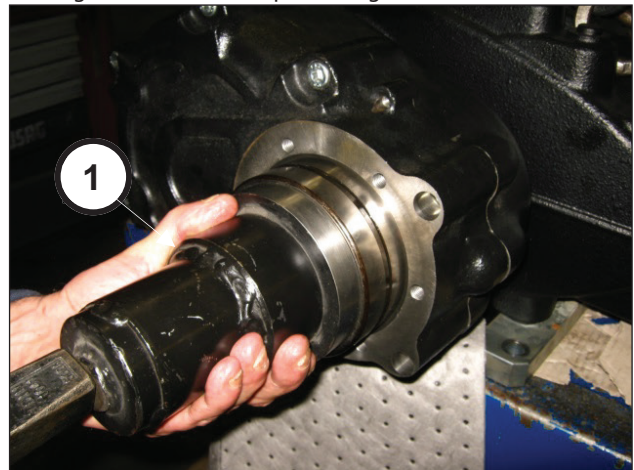
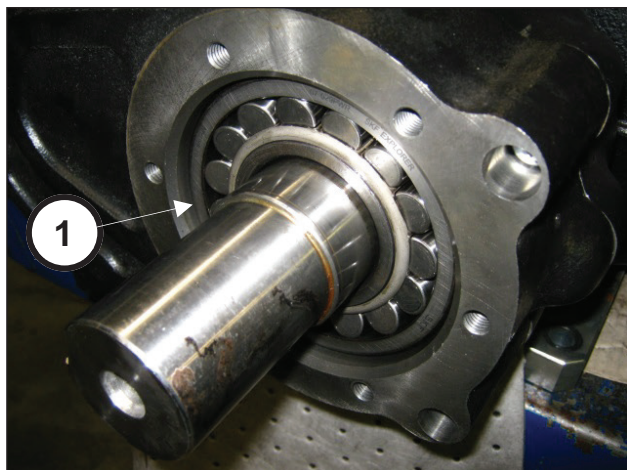

Fig. 88
Fig. 89
Using the tool code 27884700 (pos. ①, Fig. 88) move the bearing to the end stroke (pos. ①, Fig. 89).